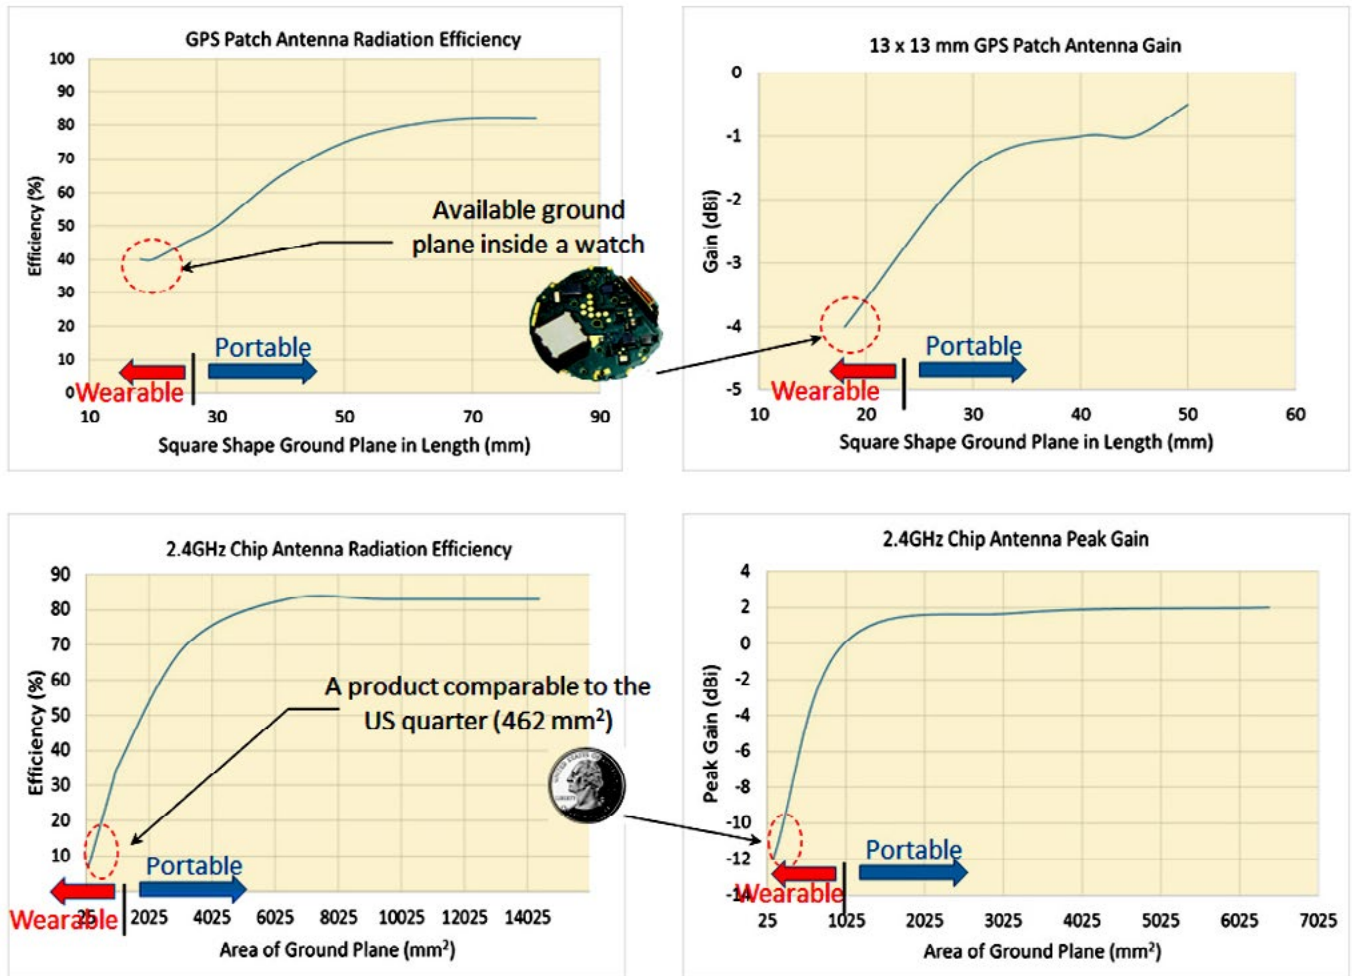

Figure 5: Comparative antenna performance vs. ground plane dimensions. (source: TransSiP)
2), and the red circles seen in Figure 5 show that, using conventional FR-4 materials and antenna design, both efficiency and gain drop way off at small sizes. This problem is much less evident at the larger dimensions possible inside mobile/portable devices such as smartphones, tablets, and laptops. But once the form factor becomes wearable and the antenna ground plane is limited to 13 x 13 mm or less, it is a different story.